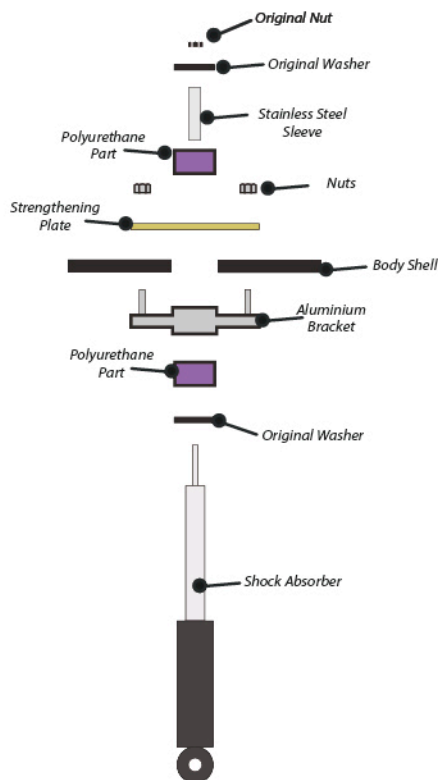

Figure 1
2. Reassemble the top mount, the bracket fits from the underside with the studs going up through the panel, as shown in Figure 1.